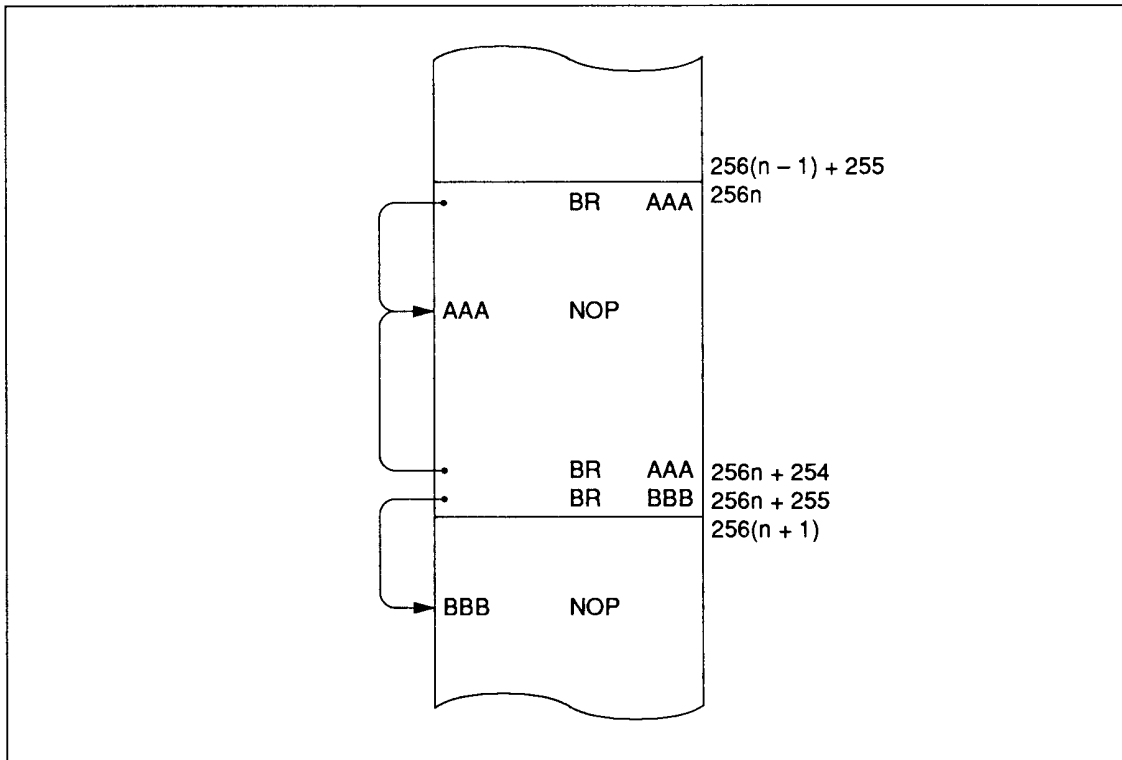

Figure 49 Branching when Branch Destination is on Page Boundary
**Current Page Addressing Mode:** The MCU has 64 pages of ROM with 256 words per page. A program can branch to any address in the current page by executing the BR instruction. This instruction replaces the eight low-order bits of the program counter (PC7–PC0) with eight-bit immediate data. If the BR instruction is on a page boundary (address 256n + 255), executing that instruction transfers the PC contents to the next physical page, as shown in figure 49. This means that the execution of a BR instruction on a page boundary will make the program branch to the next page.